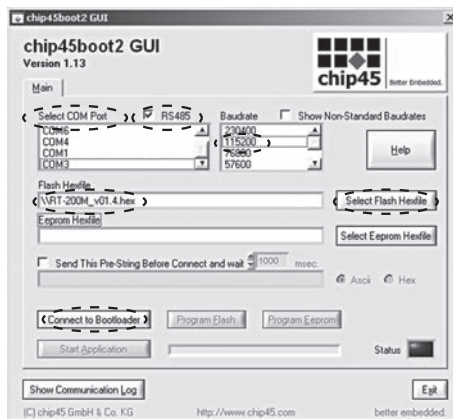

Figure 25.
4. Launch the “Chip45boot2 GUI V1.12” software (see Fig. 25);
5. Set all the parameters as shown in Figure 25:
6. Click the “Select Flash Hexfiles” button and choose the latest firmware file for the RTM-2000 temperature controller: RTM-2000\_vX.X.hex, see Figure 25;
9. Within 30 seconds, click the “Connect to Bootloader” button (see Fig. 25);